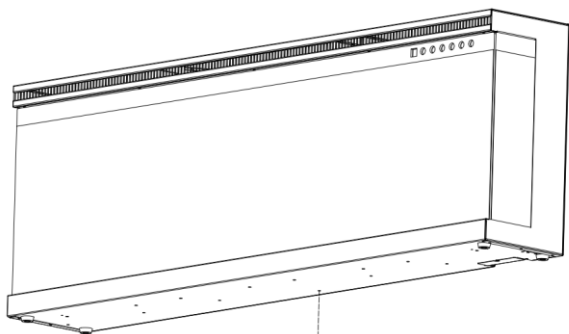

Fig 1-1
A. Remove the silver screw at the bottom of the appliance. **(Fig 1-1)**. Set the screw aside.